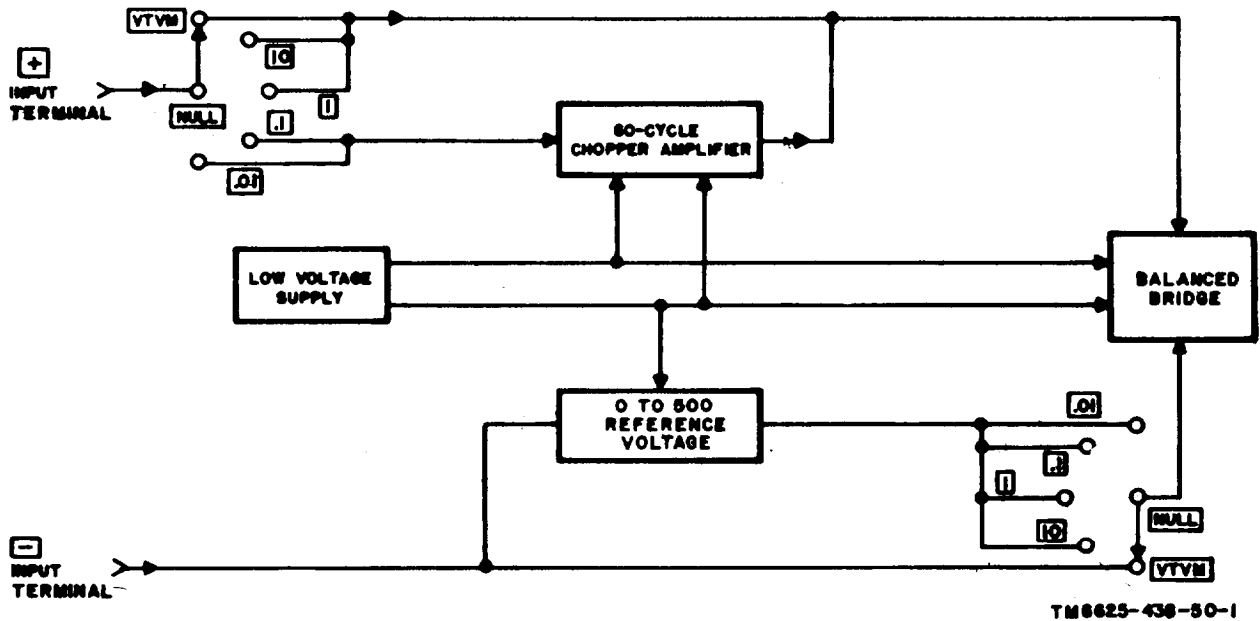

Figure 4-1. Voltmeter, Electronic AN/USM-98, block diagram.
(fig. 4-1)
a. Balanced Bridge (figs. 4-1 and 4-2).
- (2) When using the vtm to measure high resistance (from 1 to 500,000 megohms), the resistance being measured is connected to the input terminals of the vtm. The equipment is operated in the differential voltmeter mode (NULL switch set to 10 or 1) and voltage-divider switches A through E are adjusted to apply sufficient internal reference voltage across the unknown resistance to cause meter M1 to indicate off null. This off-null reading is noted and the resistance is computed in megohms.
b. 0- to 500-Volt Reference Power Supply (figs. 4-1 and 4-3). The 0- to 500-volt reference voltage is obtained from a +500-volt power supply and a voltage divider. A part of power transformer T1 and power rectifier tube V1 provide unregulated +900 volts. First series regulator tube V2, control amplifier tube V3, and voltage reference tube V5 provide regulated +625 volts. Second series regulator tube V4A, control amplifier tube V4B, differential amplifier tube V6, and voltage reference tubes V7 and V8 provide regulated +500 volts. The reference range voltage divider, VOLTS RANGE switch, and the five-decade attenuator provide the desired voltage (0 to 500 volts). This voltage is applied to the grid of V104B.
c. 60-Cycle Chopper Amplifier (figs. 4-1 and 4-4). The 60-cycle chopper amplifier is a stable, drift-free, dc amplifier with a gain of 50, and the 60-cycle chopper (CK1) is used to convert the input voltage to a square wave. The input voltage to the 60-cycle chopper amplifier is the difference between the 0- to 500-volt reference power supply output and the un-
d. *Low-Voltage Power Supply* (figs. 4-1 and 4-5). The low-voltage power supply consists